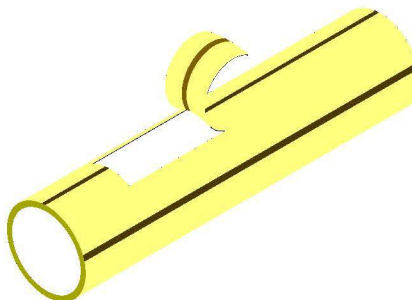

Figure A16 – Outer layer Peeled off Profuse Pipe
3. Score the Profuse pipe skin beyond the required area using the Pipe Exposure Tool (PET) (Figure A16 & A17).